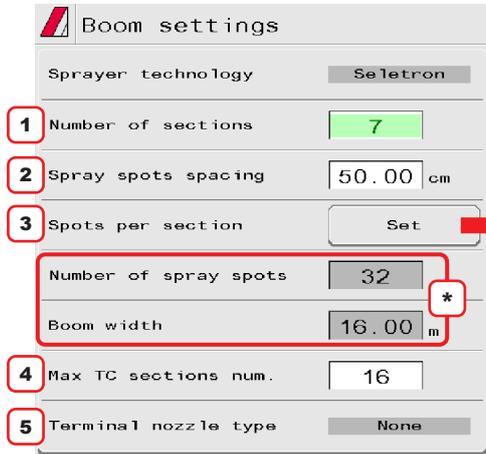

Fig. 37
* Depending on your programming, both the total number of spraying points and the boom width value will change, displayed in Fig. 37.